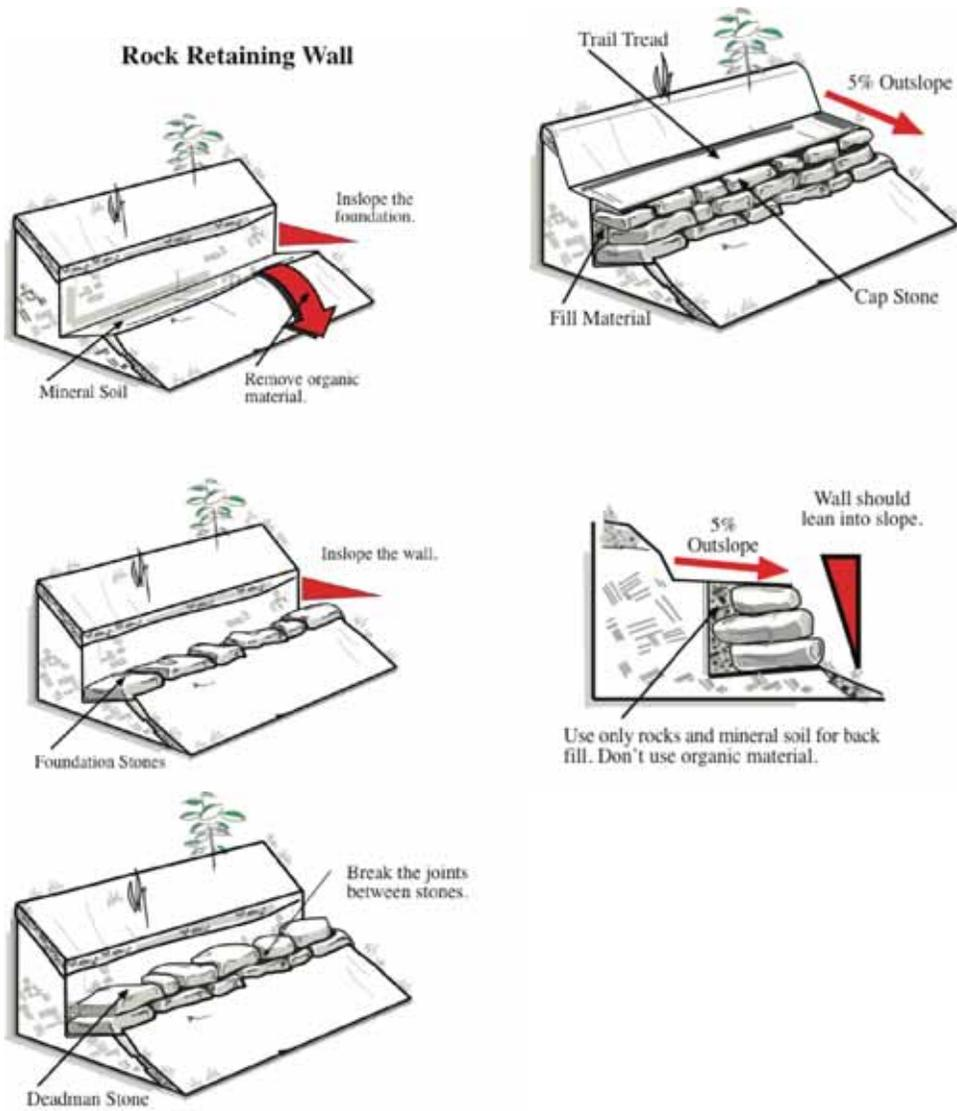

Figure 9: Rock Retaining Wall
5.7 Rock Retaining Wall (figure 9)